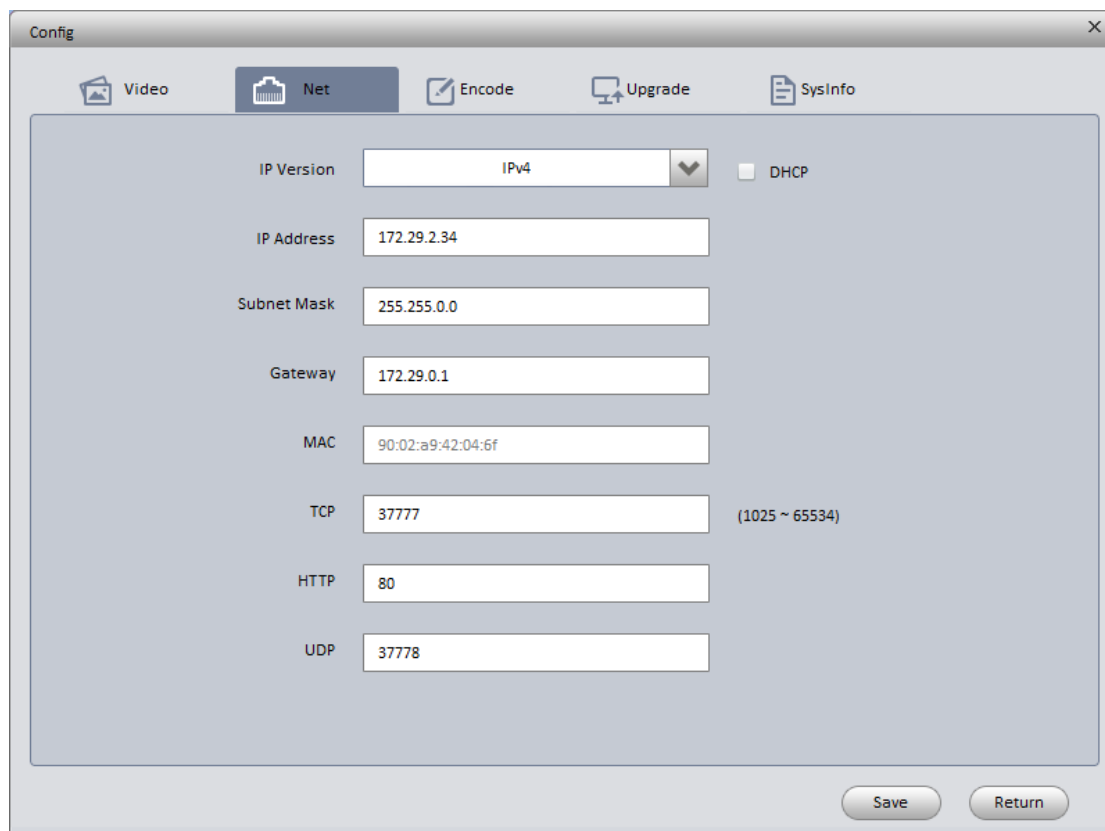

Figure 3-2
Step 3 Modify the camera IP address on the “Net” interface, click “Save” to finish modification. See Figure 3-2 for more details.